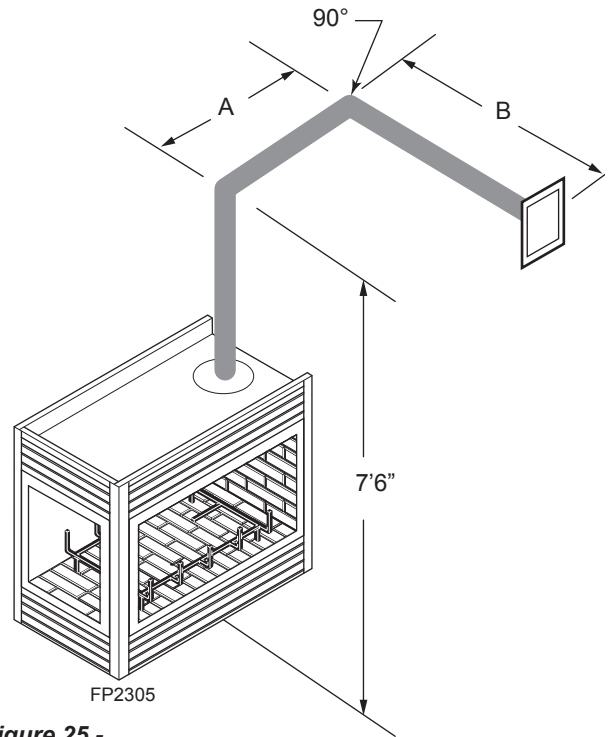

Figure 25 - Horizontal Run Reduction
- If a 90° elbow is used in the horizontal vent run, the horizontal vent length is reduced by 36" (914 mm). *Figure 25*. This does not apply if the 90° elbows are used to increase or redirect a vertical rise. *Figure 25*